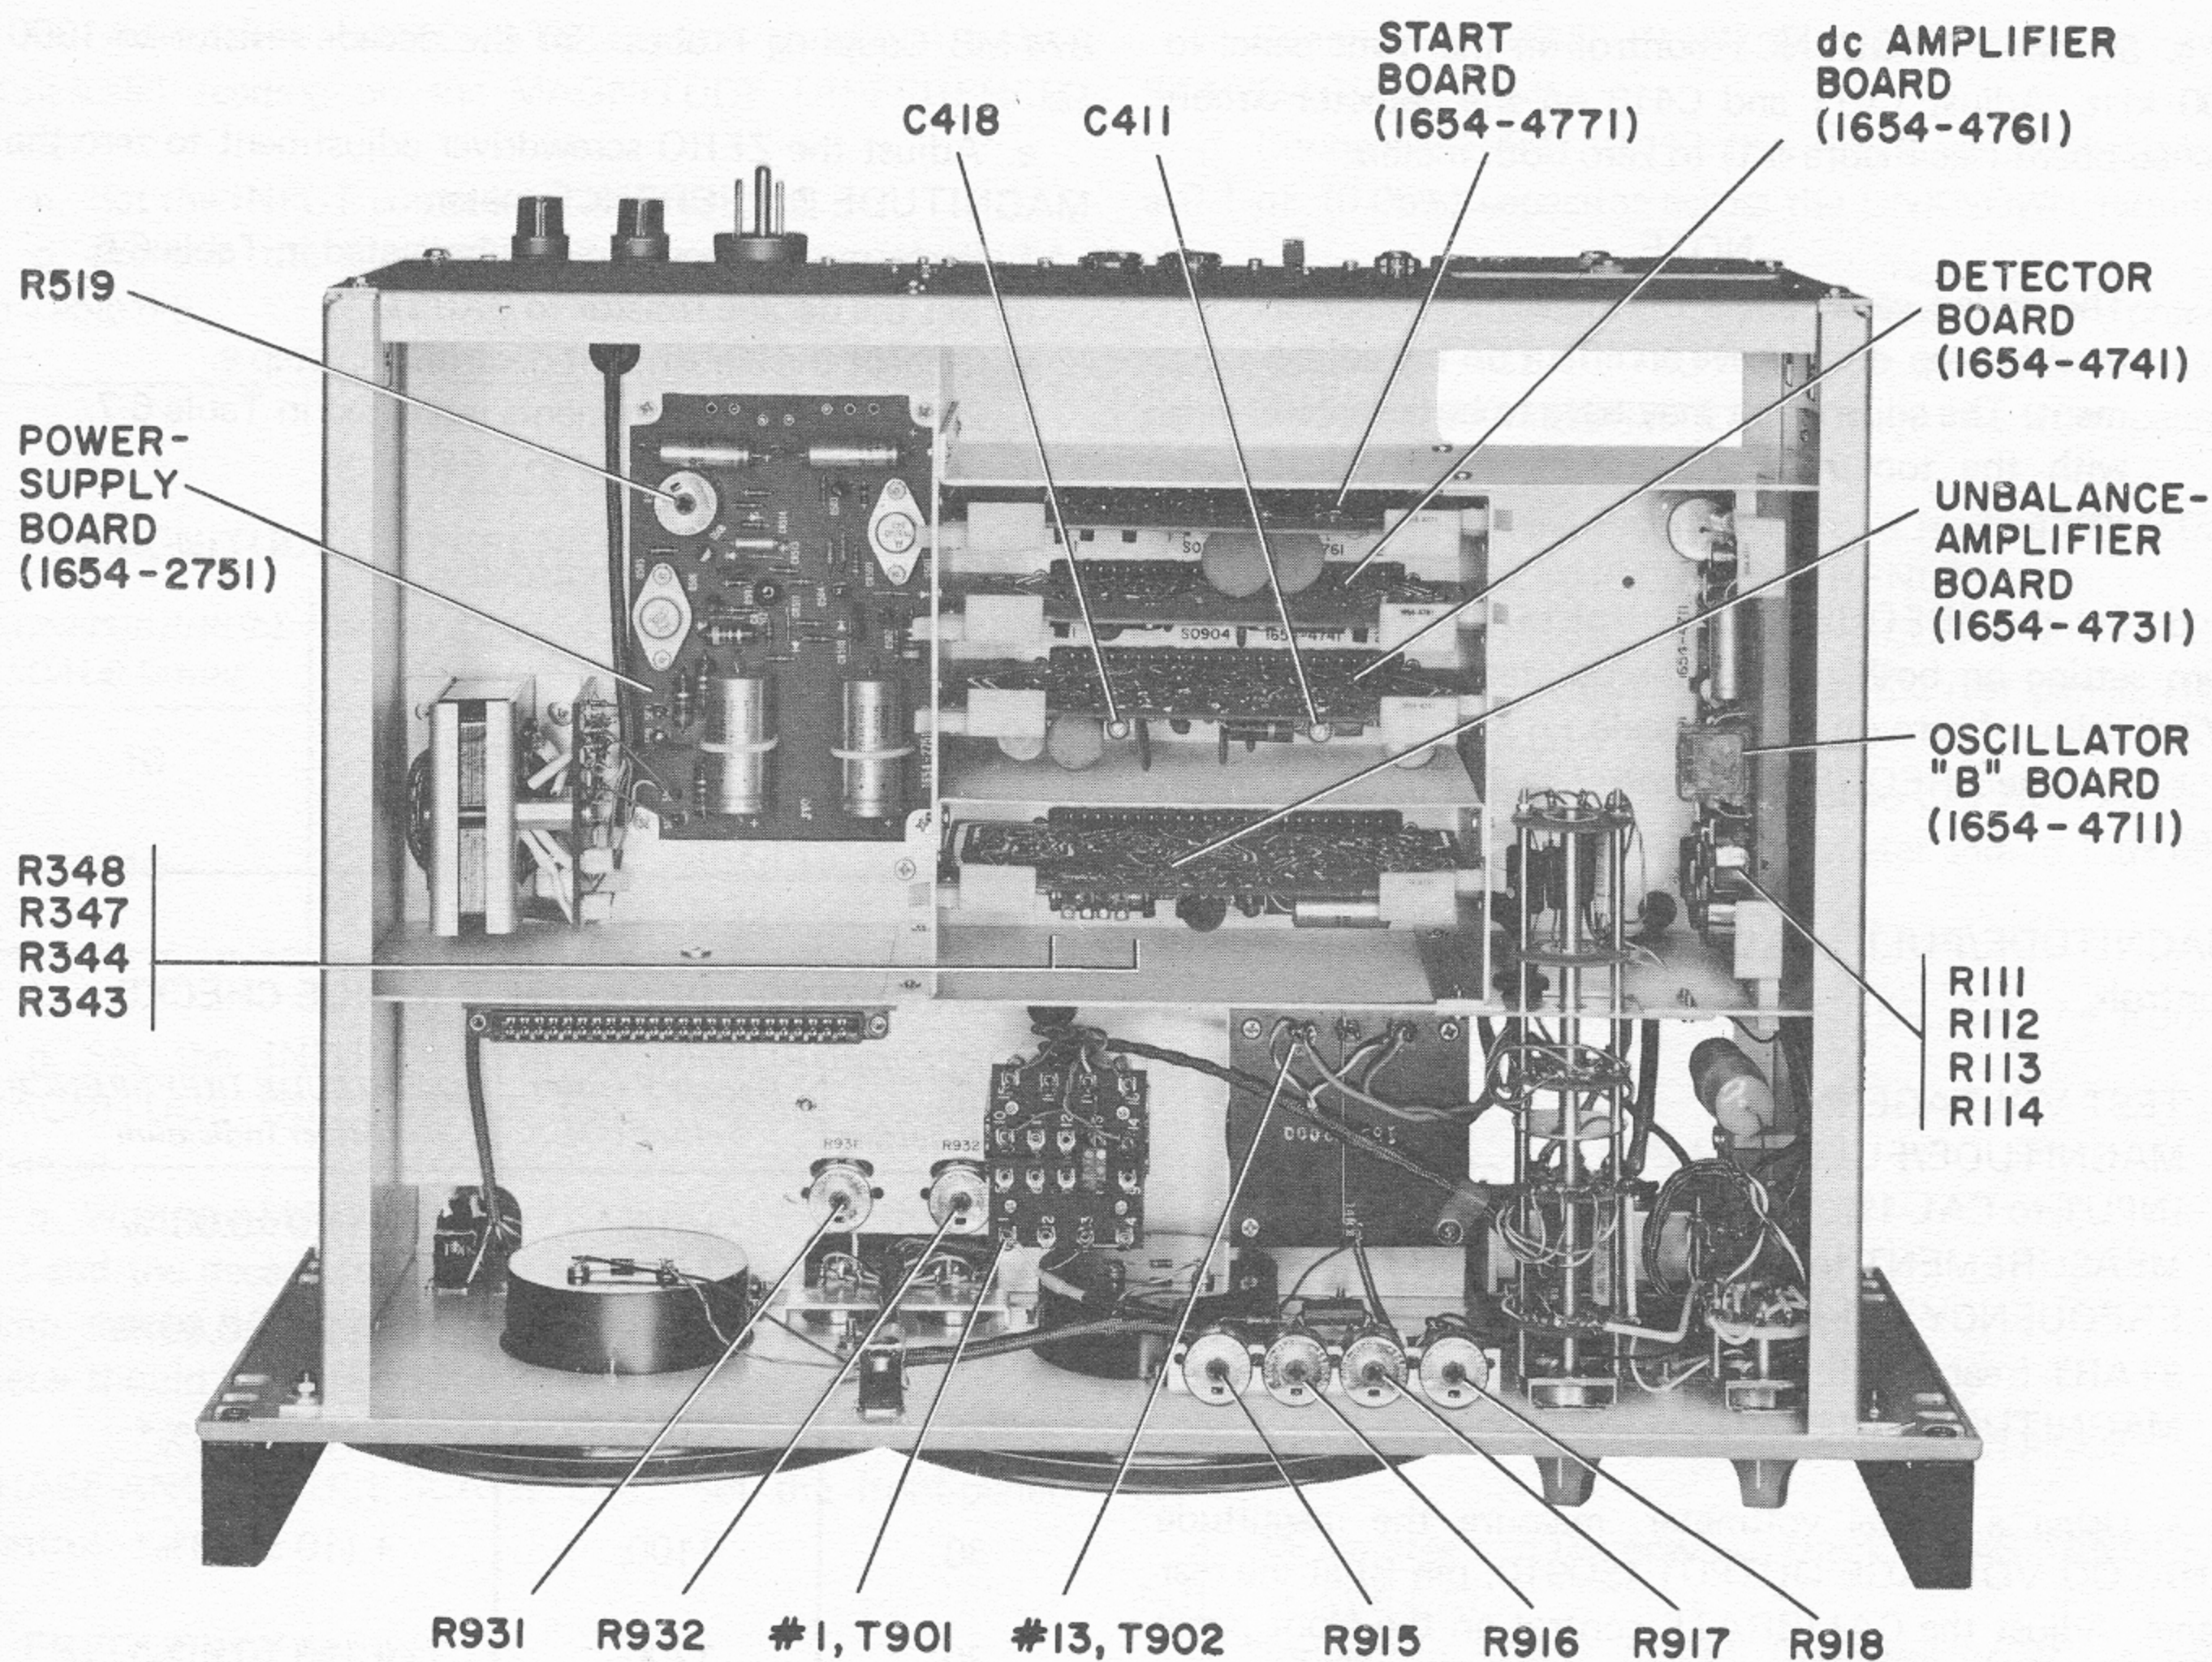

Figure 6-1. Top interior of 1654 Impedance Comparator.
± 15 -V SUPPLY. Connect the instrument to power line (all plug-in etched boards must be installed) and measure the voltage at AT505/506 (see Figure 2-8) on the power-supply etched board. If necessary, adjust R519 (see Figure 6-1) to obtain a voltage reading of -15.0 V.
TEST VOLTAGE. Using the digital voltmeter, measure the ac voltage at terminal #13 on transformer T902 (see Figure 6-1). This measurement should be made for each test voltage, as indicated in Table 6-5.
c. Set the FREQUENCY control on the front panel to 100 kHz. Adjust C411 and C418 on the detector-circuit etched board (see Figure 6-1) to zero both meters.
b. Adjust R932 (see Figure 6-1) for a reading of +10.0 on the MAGNITUDE DIFFERENCE meter.
d. Adjust R931 (see Figure 6-1) for a reading of -0.06 radian on the PHASE ANGLE DIFFERENCE meter.